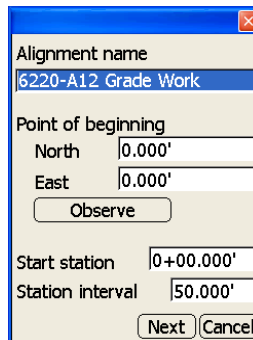

Figure 2-12. Point of Beginning Dialog Box
3. On the *point of beginning* dialog box, set the following parameters and press **Next** (Figure 2-12):